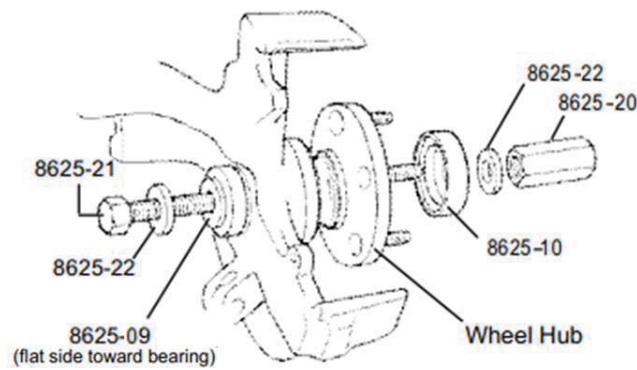

Figure 7
6. Assemble the tool components as shown in Figure 7.and install the hub.